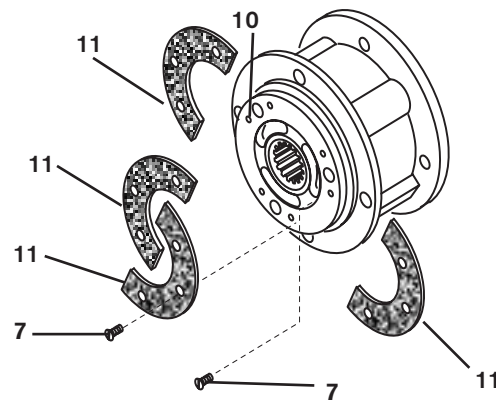

FIGURE 9
- Remove the six old Flat Head Machine Screws (Item 7) and the first old split Friction Facings (Item 11) (See Figure 9).
- Align the holes in the Splined Disc (Item 10) with the Flat Head Machine Screws (Item 7) that secure the second split Friction Facing (Item 11) (See Figure 9).
- Remove the six old Flat Head Machine Screws (Item 7) and the second old split Friction Facing (Item 11) (See Figure 9).
- Install the first new split Friction Facings (Item 11) and new Flat Head Screws (Item 7) (See Figure 9).
- Install the second new split Friction Facings (Item 11) and six new Flat Head Machine Screws (Item 7) (See Figure 9).